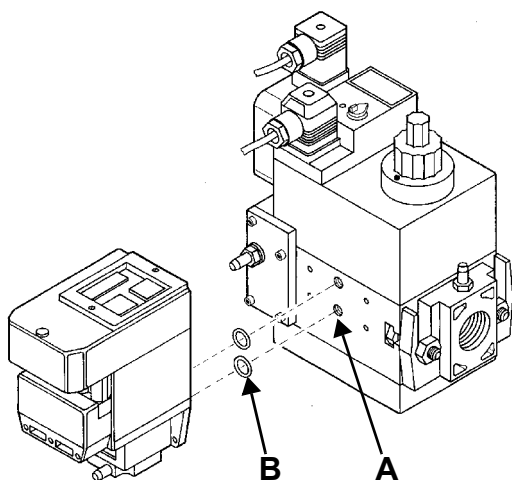
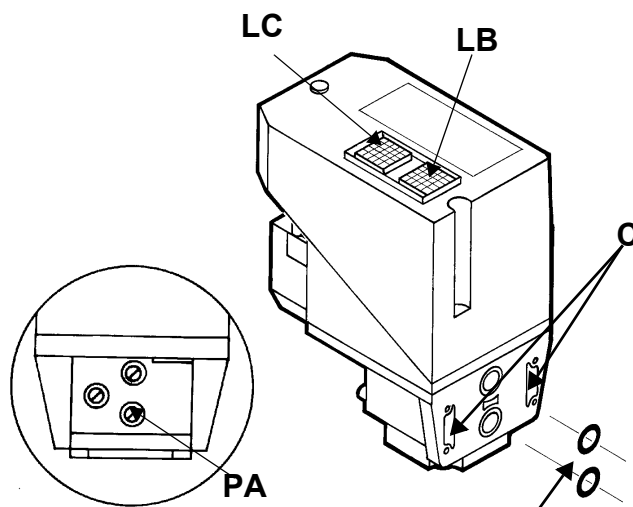

Fig. 52
Fig. 53
- 3 remove the Multibloc's screw plugs (Fig. 52-A);
- 4 insert sealing rings (10,5 x 2,25) into VPS 504 (Fig. 53-B, Fig. 52-B)
- 5 Torque screws 3, 4, 5, 6 (M4 x16) Fig. 52-C
When wishing to monitor the test, install a pressure gauge ranged to that of the pressure supply point **PA** (Fig. 53). If the test cycle is satisfactory, after a few seconds the consent light **LC** (yellow) comes on. In the opposite case the lockout light **LB** (red) comes on. To restart it is necessary to reset the appliance by pressing the illuminated pushbutton **LB**.